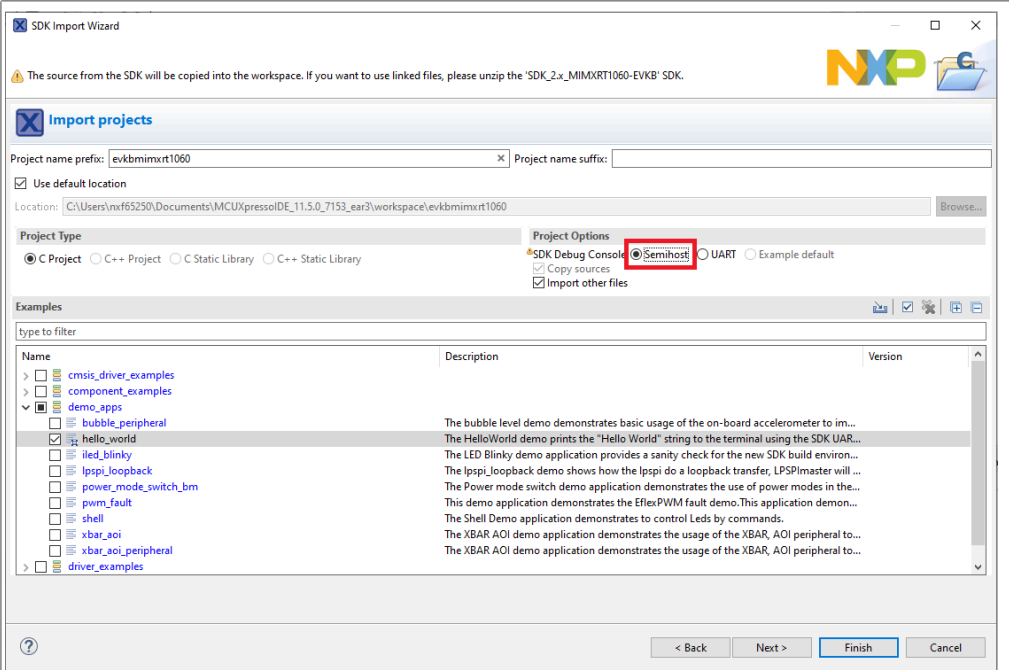

Figure 33. Selecting Semihost
**Note:** If you want to use semihost to print log, first select the **Semihost** button when importing projects, as shown in Figure 33.